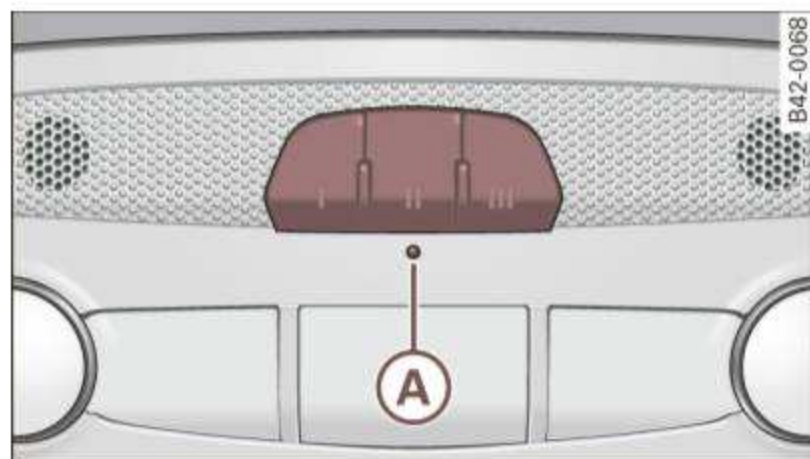

Fig. 81 Overhead console: HomeLink® keypad
4. Press and hold the two outside HomeLink® buttons (I) and (III) for approximately 20 seconds until indicator light (A) ⇒ fig. 81 begins to flash. Then release both buttons. Do not hold the buttons for longer than 30 seconds.
5. Press and hold the HomeLink® button (I), (II) or (III) until the indicator light (A) starts flashing *slowly*. Release the button.
10. Press and hold the trained HomeLink® button and observe the indicator light (A) ⇒ *page 102, fig. 81.*